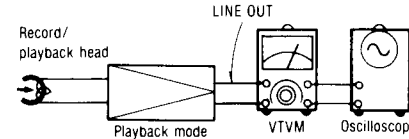

Fig. 2
1. La conexión del equipo de prueba se muestra en la Fig. 2.
- The serial number plate of this product is attached to the bottom cover. (shown in fig. 2)
1. Make connections as shown in fig. 2.
1. Test equipment connection is shown in fig. 2.